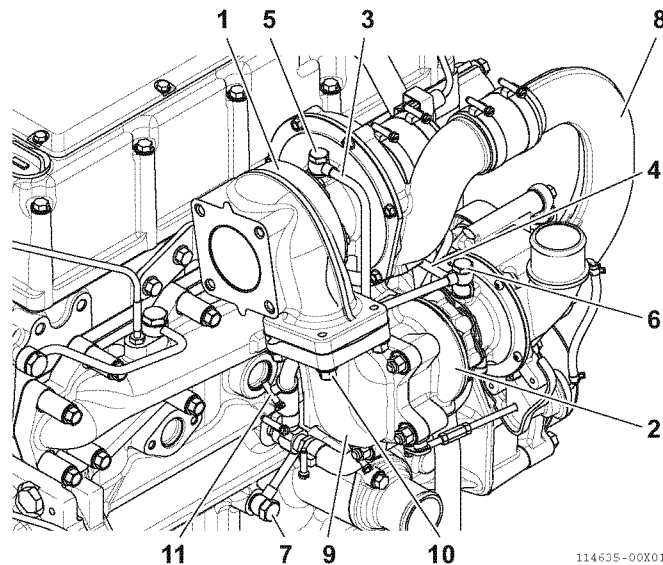
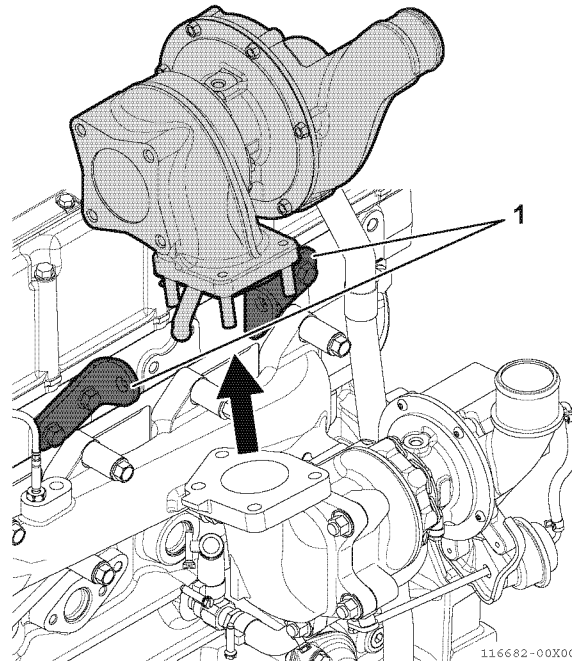

Fig.24-7
Fig.24-9
- 1 - Disconnect the air inlet and outlet connection of the low-pressure stage turbocharger (1, Fig.24-7).
- 2 - From the low-pressure stage turbocharger (1, Fig.24-7) and high-pressure stage turbocharger (2, Fig.24-7), loosen the pipe joint bolts (5, 6, and 7, Fig.24-7) on the lubricating oil supply pipes (3 and 4, Fig.24-7) and remove the lubricating oil supply pipes. Block the pipe joint hole and oil pipe with tape so that dust and other foreign matter do not enter.
- 4 - Remove the intake air duct joint (8, Fig.24-7) which connects to the high-pressure stage turbocharger.
- 5 - Remove the mounting nuts (10, Fig.24-7) from the flange of the exhaust pipe (9, Fig.24-7) that connects from the high-pressure stage turbocharger.
- 6 - Loosen the hose clips (11, Fig.24-7) of the lubricating oil return hose and remove the low-pressure stage turbocharger (upper side) (Fig.24-9).
- 7 - Remove the two stays (1, Fig.24-9) which are fastening the low-pressure stage turbocharger and cylinder head from the cylinder head.